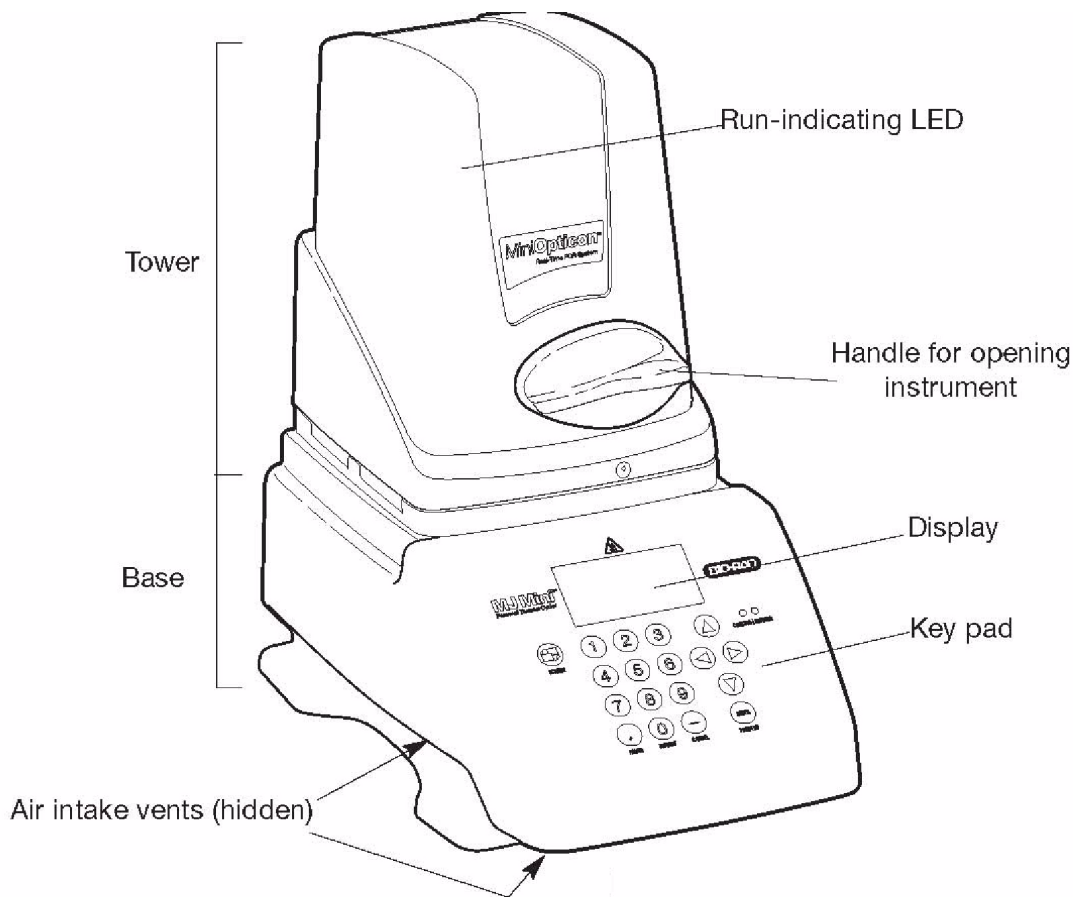

Figure 1. Front view of the MiniOpticon system.
4. To close the instrument, rotate the tower back into the closed position and then turn the green handle clockwise (Figure 1). Both the tower and the handle have spring mechanisms that facilitate closure.